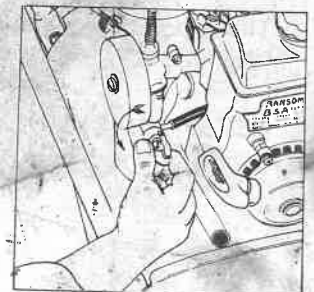

Fig. 1
- 1 Turn petrol tap to ON position (Fig. 1).
- 2 Ignition Switch (4) to ON position.